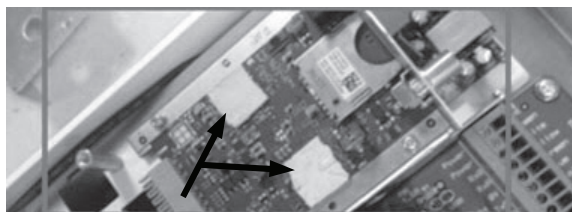

Figure 3.9 Thermal pads in correct position on the encoder
- Note the position of the thermal pads. They should be sticking onto either the built-in stand-offs on the inside of the lid of the enclosure, or onto designated spots on the encoder. If the pads are not positioned correctly, they can cause the encoder to stop functioning properly. See *Figure 3.9* and *Figure 3.10* for details.